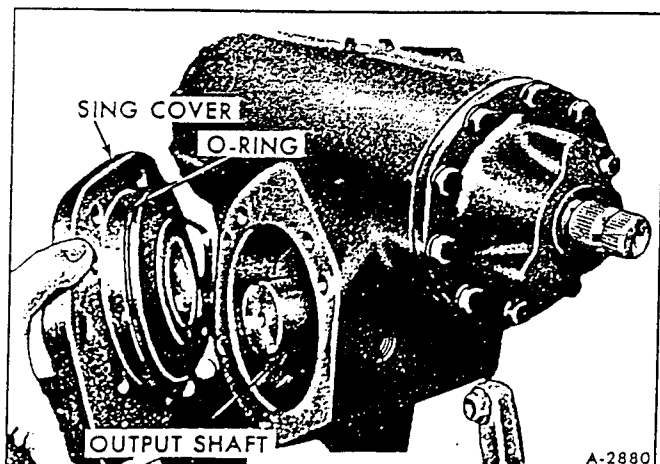

Figure 11 – Removing Housing Cover (Typical)
5. Remove Pitman shaft housing cover bolts (fig. 11). Use a soft hammer and tap on end of output shaft to loosen cover. The output shaft and pinion gear assembly may be removed with the cover.